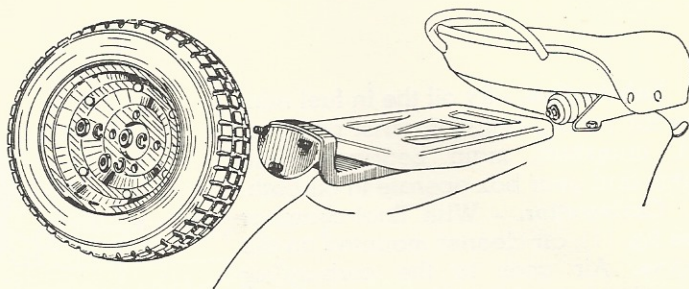

Fig. 8 - Spare wheel and bracket
**Spare wheel and bracket** (see fig. 8). - The wheel bracket sheet steel pressing, can be secured to the scooter frame behind luggage carrier (see Table XX, « Spare parts list »).